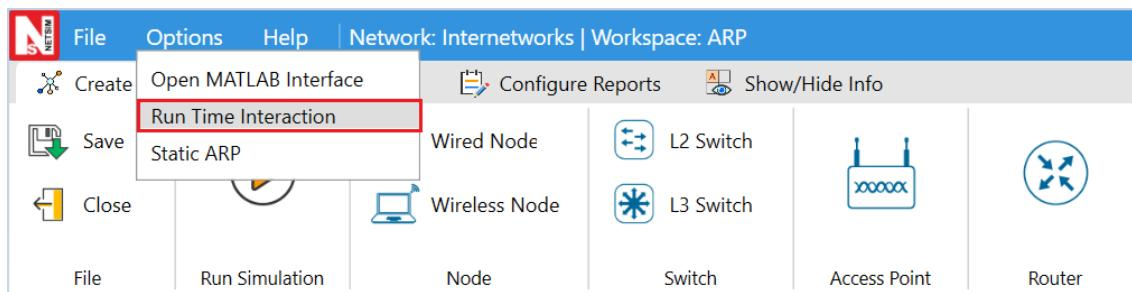

Figure 3-108: Run time Interaction tab set Interactive Simulation as True
- Click on **Options** tab and select Run Time Interaction option Figure 3-108.